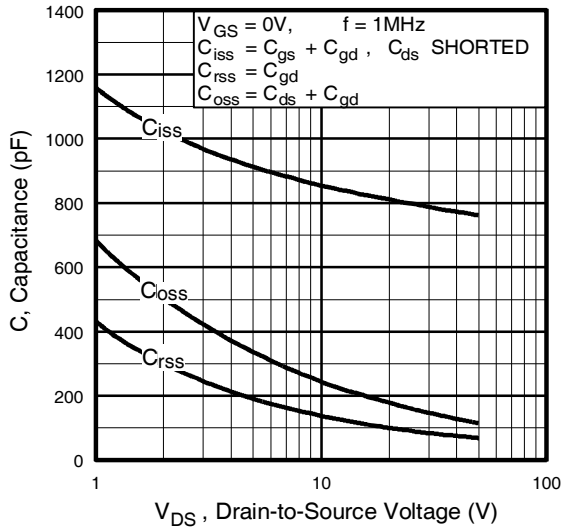

Fig 5. Typical Capacitance Vs. Drain-to-Source Voltage
| C _{rss} | Reverse Transfer Capacitance | — | 90 | — | | f = 1.0MHz, See Fig. 5⑤ |